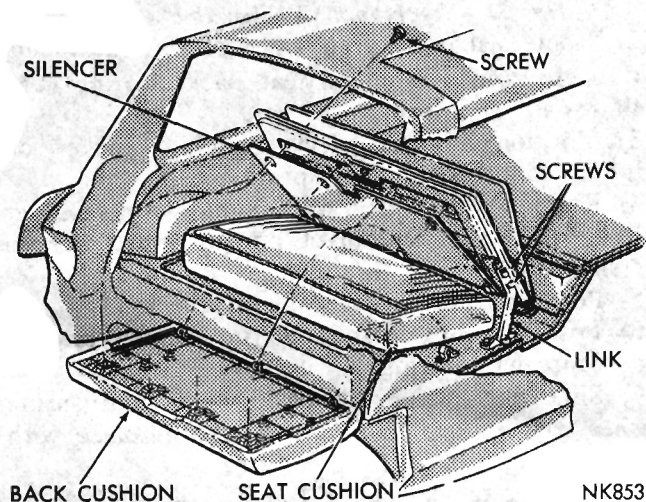

Fig. 34 - Third Seat Back and Cushion
- (1) With third seat back in the UP position (Fig. 34) remove the seat hinge links screws.
- (2) Remove seat back and support panel assembly.
- (3) The seat back cushion is retained with screws to the seat back panel.
The third seat cushion (Fig. 34) is attached to hinges which in turn are attached to the quarter inner panels by screws.